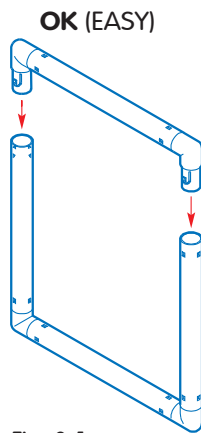

Fig. 3-1
(2) Finish the assembly of both connectors with the tube in between. Then insert the connectors into two separate tubes to complete a panel. (Fig. 3-1)